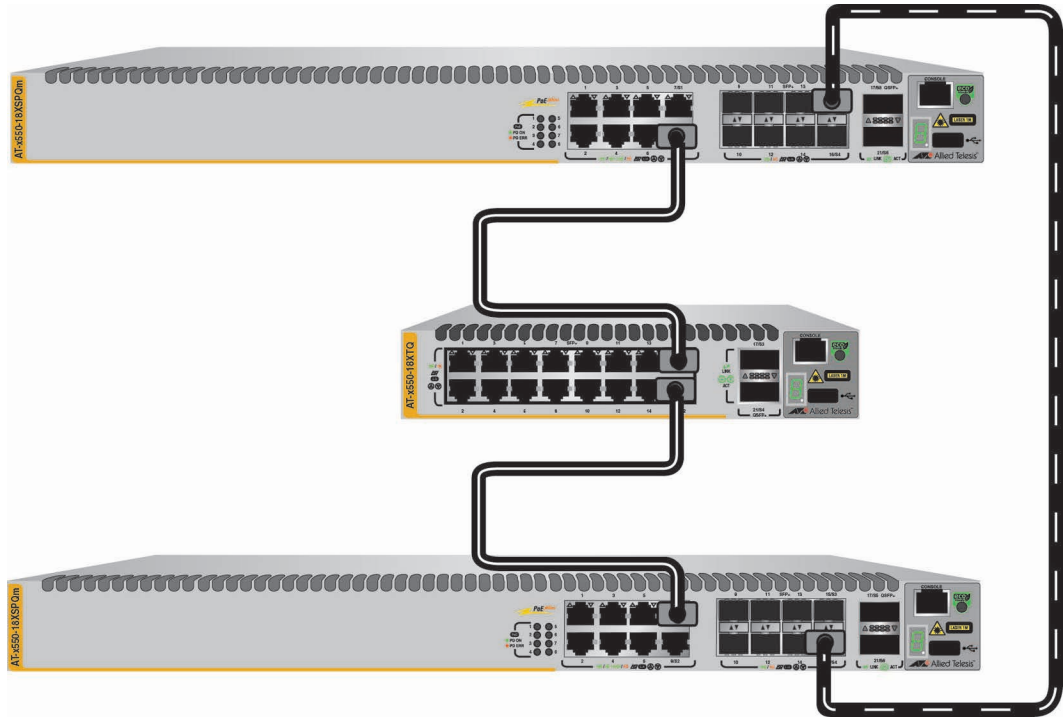

Figure 26. Invalid 10Gbps Stack Trunk with Ports from Both Stacking Pairs on AT-x550-18XSPQm Switches
- ❑ 10Gbps stack trunks on AT-x550-18XSPQm Switches cannot use ports from both sets of 10Gbps stacking ports, listed in Table 15 on page 59. Figure 26 is an example of this type of invalid trunk.